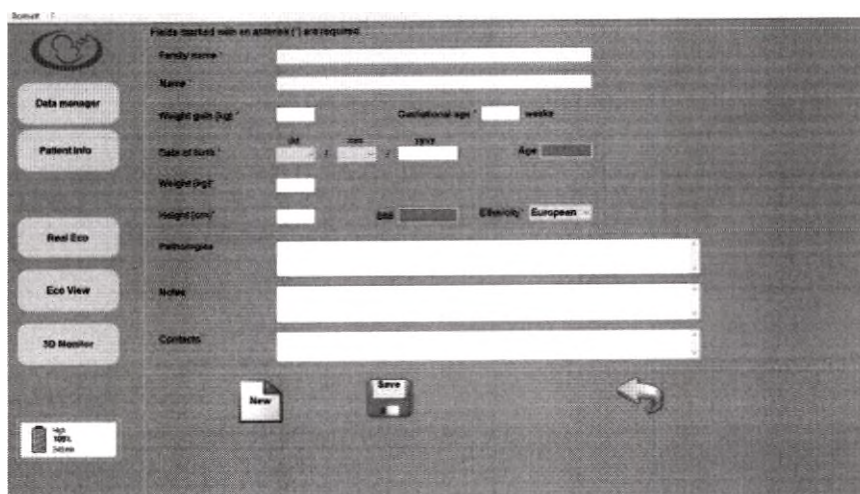

Figure 47. The start of training mode.
2.1. Launch the Amolab Suite software and enter "Training Mode" (Fig. 47):